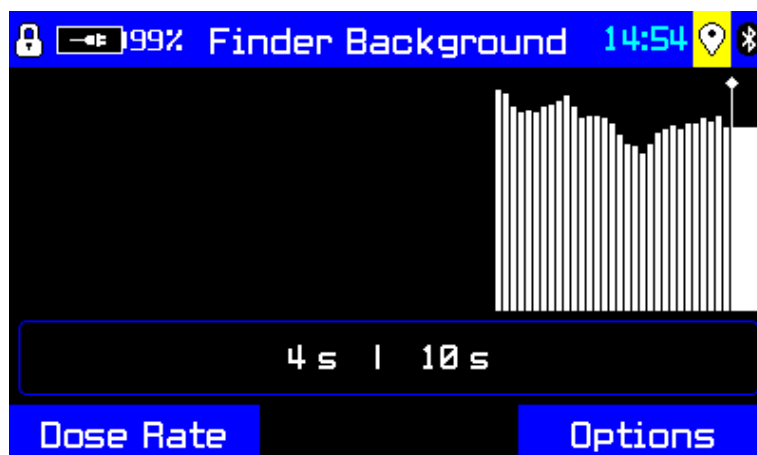

Figure 3-6: Finder mode: background scan
2. When you first enter Finder mode, a background scan will be performed to determine the background radiation in the area (Figure 3-6). Wait until the R425 finishes the background measurement.